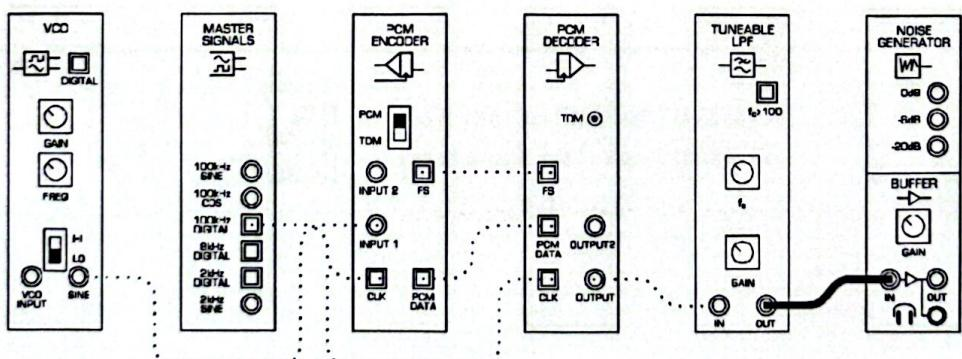

Figure 12
36. Add the Buffer module to the set-up as shown in Figure 12 below leaving the scope's connections as they are.